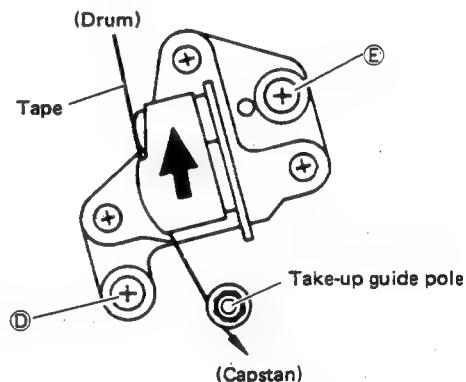

Fig. 2-34 Control head phase adjustment
- Loosen screws **D** and **E** (Fig. 2-34) to the degree that allows sliding the A/C head. Slide the A/C head fully toward the capstan direction.